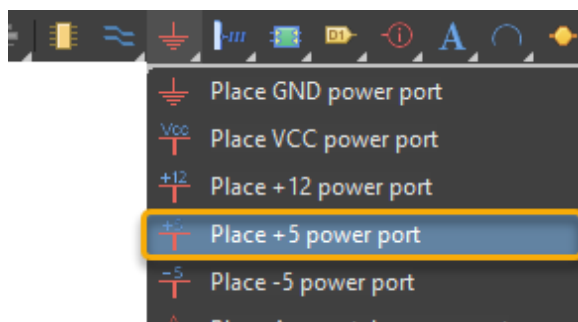

Figure 14. Power Port
- Next place the remaining power ports, again using the **Active Bar** (or from the **Place » Power Port** menu). You may need to Right Mouse Click on the Active Bar to select the appropriate power port, as shown in Figure 14.